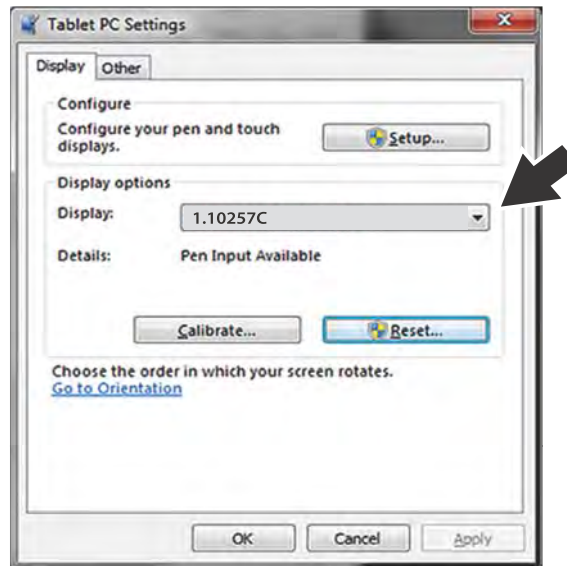

Figure 14-3 Typical - Tablet PC Settings window
The Tablet PC Setting window is displayed (Figure 14-3).
2. Select the diagnostic tool display from the dropdown list. The current default diagnostic tool display number “1.10257C” is shown in (Figure 14-3), as an example.